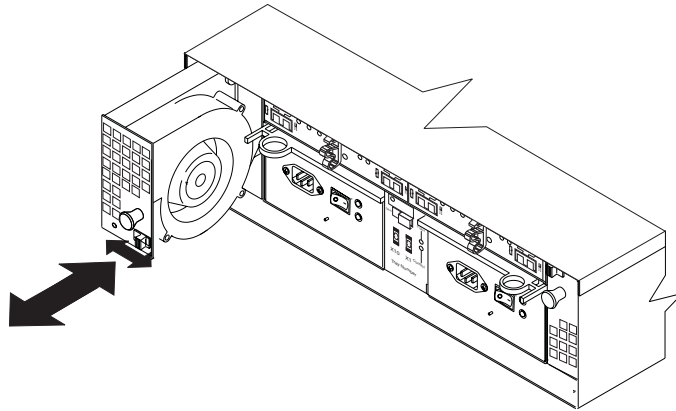

Figure 43. Replacing a hot-swap cooling fan
- b. Use the handle (black knob) to pull the fan from the fan bay, as shown in Figure 43.